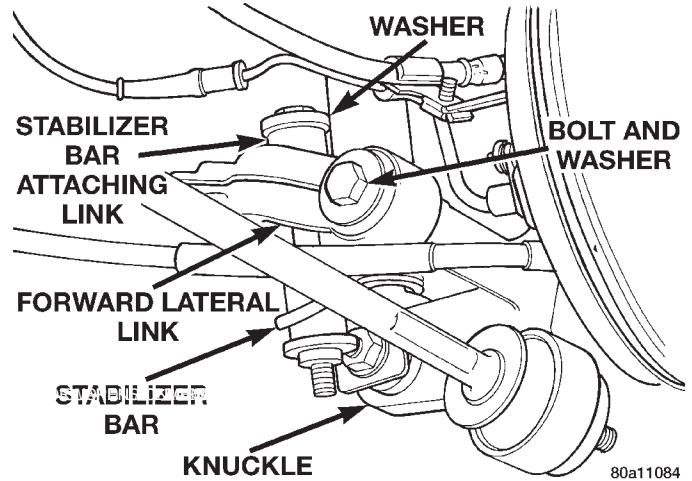

Fig. 43 Stabilizer Bar To Lateral Link Attachment
(1) Raise vehicle on jackstands or centered on a frame contact type hoist. See Hoisting in the Lubrication and Maintenance section of this manual, for the required lifting procedure to be used for this vehicle.
(2) Remove the rear wheel and tire assembly from the side of the vehicle requiring lateral link removal.
(3) Remove the rear stabilizer bar attaching link from the forward lateral link (Fig. 43).
(4) Remove the nut, bolt and washer (Fig. 43) attaching the forward lateral link to the knuckle.
The forward lateral link is to be installed with the cup in cast portion facing down and toward rear knuckle (Fig. 43).
(2) Install the lateral link and attaching nut, bolt and washer at rear knuckle (Fig. 43).
(3) Torque both lateral link attaching bolts to 108 N·m (80 ft. lbs.).
(4) Install the rear stabilizer bar attaching link, isolator bushings and attaching nut on the forward lateral link (Fig. 43). Tighten the attaching nut to a torque of 35 N·m (26 ft. lbs.).
(5) Install wheel and tire assembly on vehicle. Tighten the wheel mounting stud nuts in proper sequence until all nuts are torqued to half specification. Then repeat the tightening sequence to the full specified torque of 135 N·m (100 ft. lbs.).
(6) Lower vehicle to the ground.
(7) Check and reset rear wheel Camber and Toe to specifications if required. Refer to Front And Rear Alignment Setting Procedure in the Wheel Alignment Check And Adjustment section in this group of the